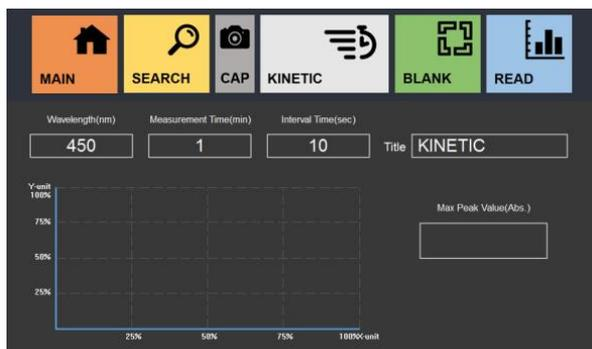

Fig. 3-16
1. Select Kinetic measurement interface (Fig. 3-16).